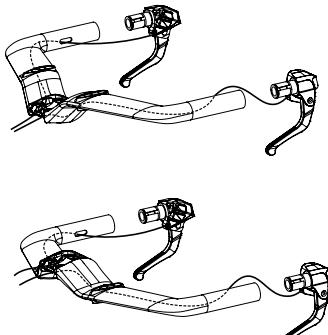

Fig. 6.1
- 1- **Routing the brake lever electric wires into the bar starters.** Feed the lever connectors from the starter oblongs up to the central holes in the bar. (fig 6.1)